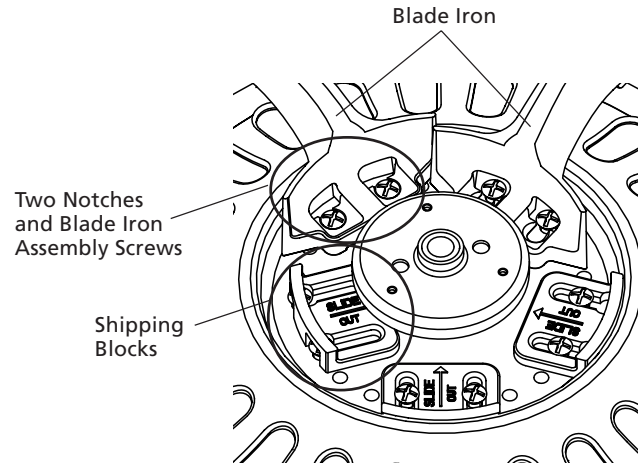

Figure 4 - Assembling the blade iron
4. Slide the blade iron under the switch housing plate aligning the two notches with the two blade iron assembly screws as shown in Figure 4.